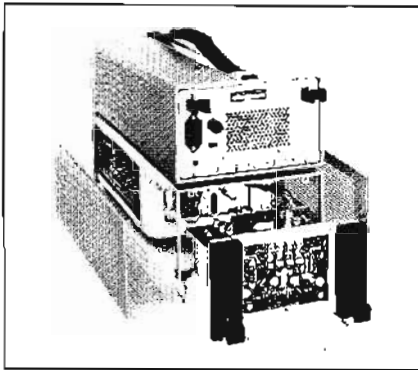

Figure 4. Power supply module can be operated outside the mainframe to facilitate maintenance.
2. Mainframes in the 180 System have a reliable LVPS which, when repair may be required, can be removed from the instrument in a fully operating status; refer to Figure 4. Repair or calibration time is greatly reduced.